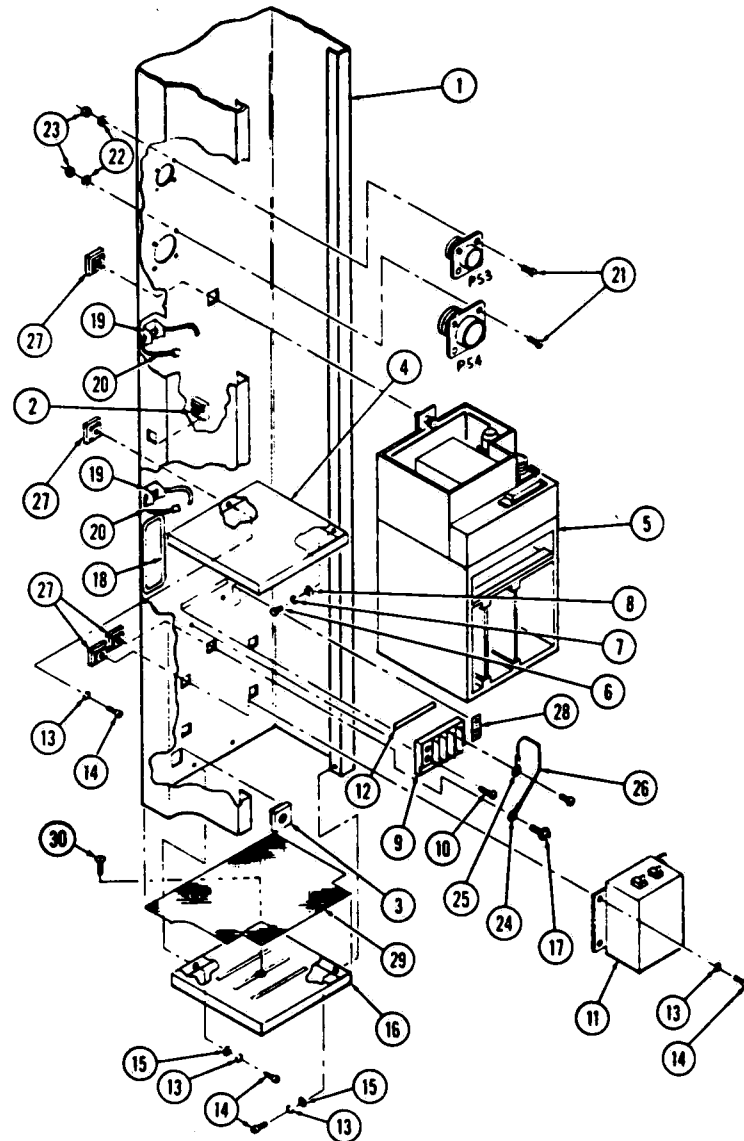

Figure 9-5. CONTROL COLUMN, Eagle 2300 (Part 2 of 3).
- Figure 9-5. CONTROL COLUMN, Eagle 2300 (Part 2 of 3).